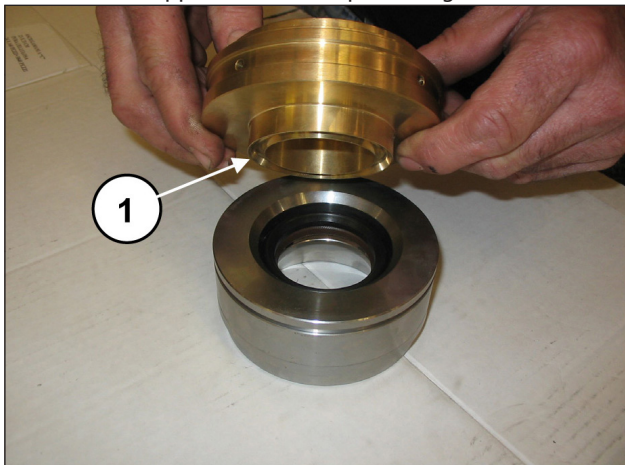

Fig. 128
Join the seals support to the liner (pos. ①, Fig. 128).